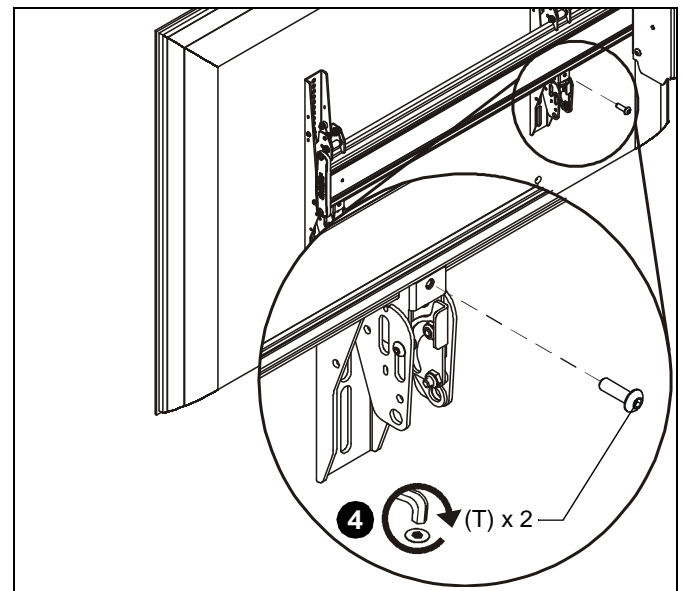

Figure 14
4. Fasten bracket against mounting rail using one 10-24 x 5/8" button head cap screw (T). (See Figure 14)